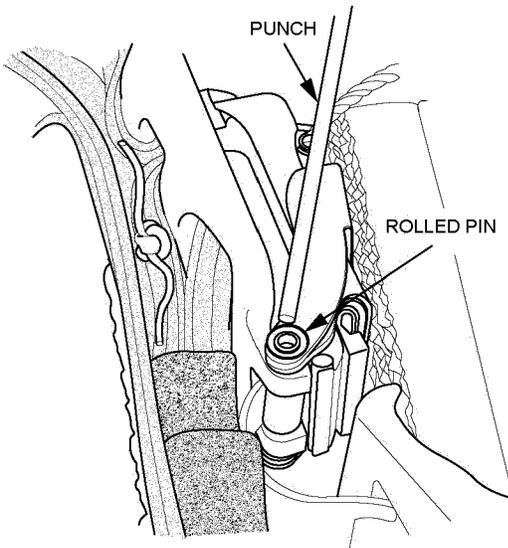

Figure 2. Removal of Rolled Edge of Rivet
- c. Place punch into the rolled edge of the pivot pin (Figure 2).